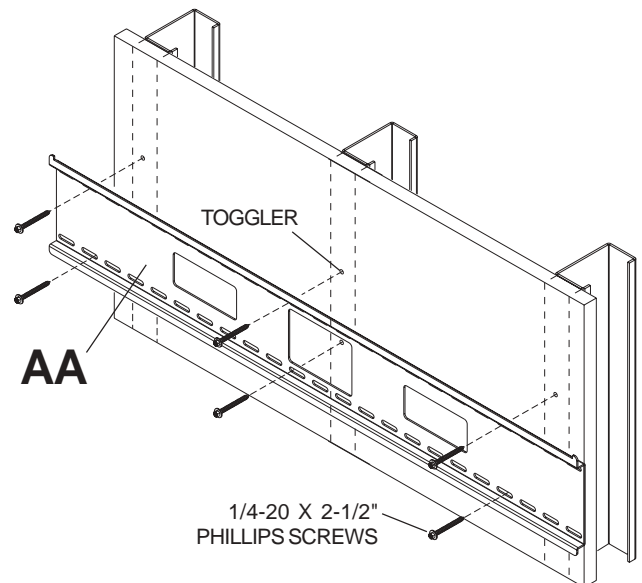

fig. 1.4
Loosely fasten mount assembly (AA) to wall using four 1/4-20 x 2-1/2" screws as shown in figure 1.4.